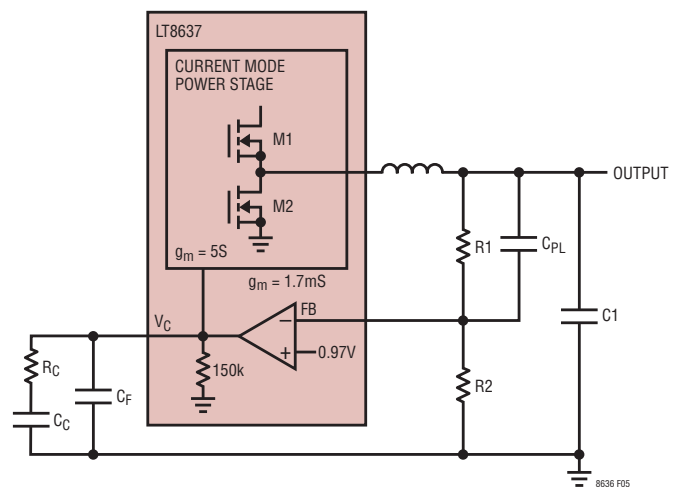

Figure 5. Model for Loop Response
Figure 5 shows an equivalent circuit for the LT8637 control loop. The error amplifier is a transconductance amplifier with finite output impedance. The power section, consisting of the modulator, power switches, and inductor, is modeled as a transconductance amplifier generating an output current proportional to the voltage at the VC pin. Note that the output capacitor integrates this current, and that the capacitor on the VC pin (CC) integrates the error amplifier output current, resulting in two poles in the loop. A zero is required and comes from a resistor RC in series with CC. This simple model works well as long as the value of the inductor is not too high and the loop crossover frequency is much lower than the switching frequency. A phase lead capacitor (CPL) across the feedback divider can be used to improve the transient response and is required to cancel the parasitic pole caused by the feedback node to ground capacitance.